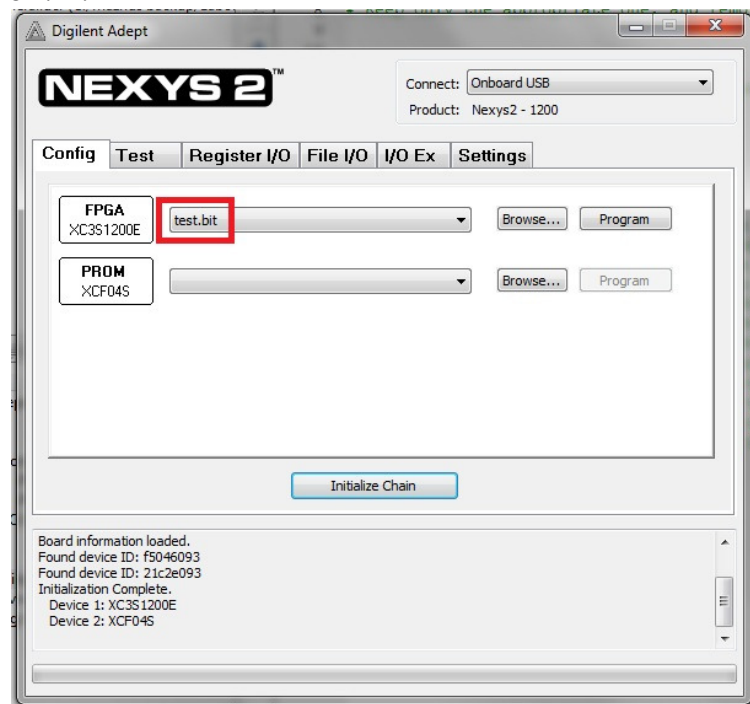
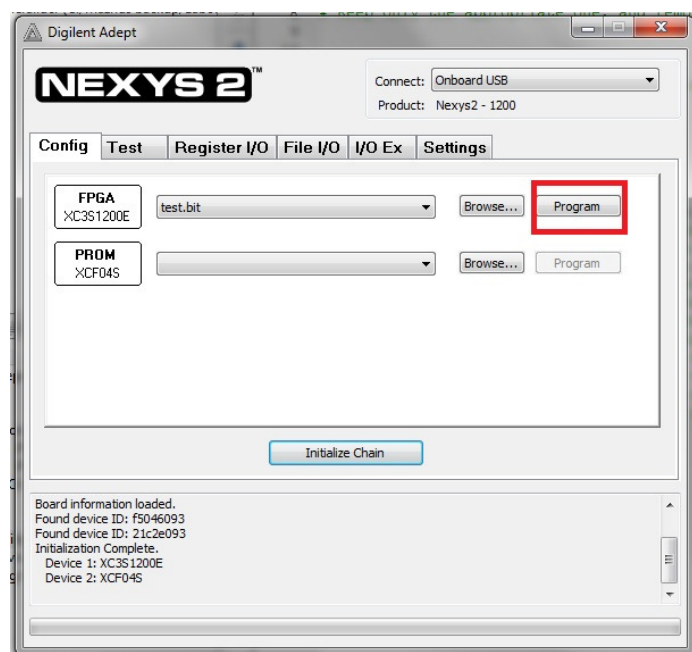

Fig1.16
Fig1.17
- Select the *.BIT file from your Project Folder and Click on Program as shown in figure 1.16 and figure 1.17.